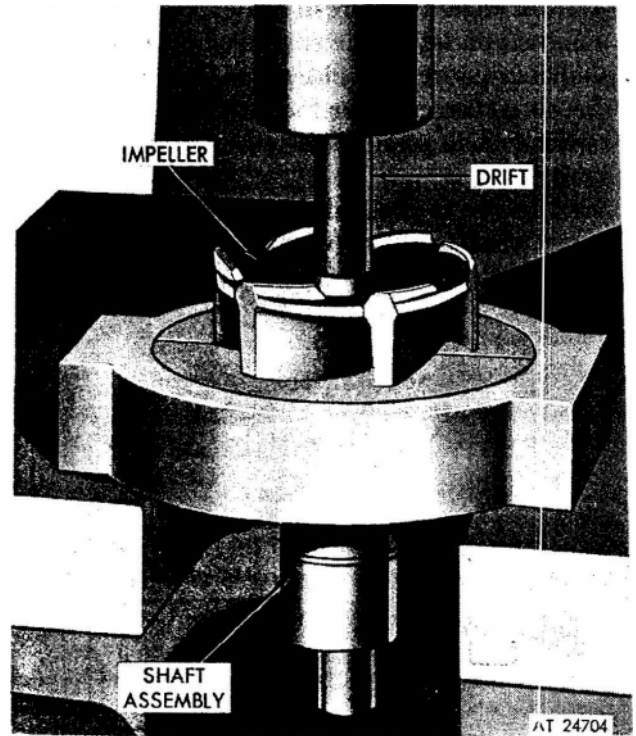

Figure 4. Removing shaft from impeller with tools J 8329 and J 358-1.
4. Press the end of the shaft out of the impeller as shown in figure 4, using plates J 8329 and holder J 358-1.